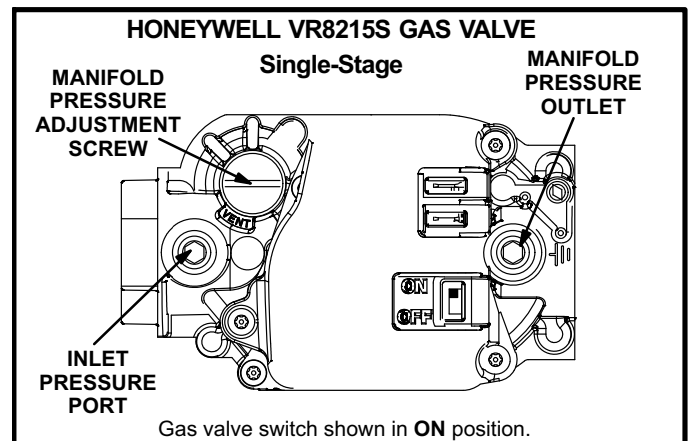
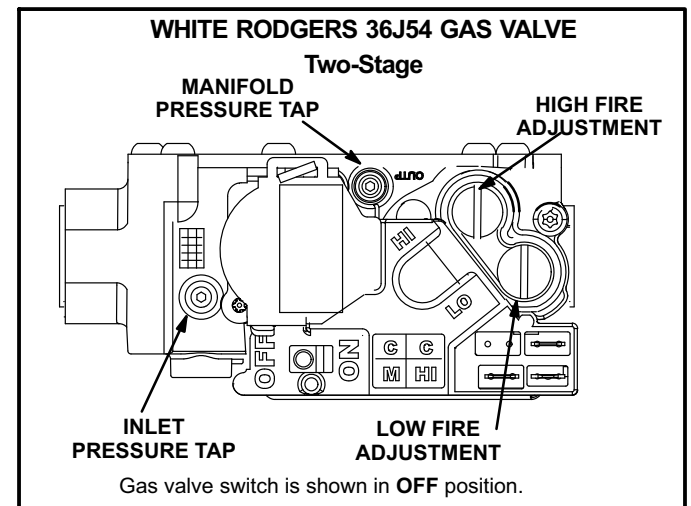

FIGURE 19
FIGURE 20
Both valves are adjustable for manifold pressure. Figures 19 and 20 show gas valve components. Table 6 shows factory gas valve regulation for KDB series units.
Gas Valve Operation (figures 19 and 20)
- 6- *Honeywell VR8215S Gas Valve with ON/OFF Lever* - Switch gas valve lever to **OFF**. See figure 19 .
- 7- *White Rodgers 36J54 Gas Valve with ON/OFF Lever* - Switch gas valve lever to **OFF**. See figure 20.
- 8- Wait five (5) minutes to clear out any gas. If you then smell gas, **STOP!** Immediately call your gas supplier from a neighbor's phone. Follow the gas supplier's instructions. If you do not smell gas, go to the next step.
- 9- *Honeywell VR8215S Gas Valve with ON/OFF Lever* - Switch gas valve lever to **ON**. See figure 19 .
- 10- *White Rodgers 36J54 Gas Valve with ON/OFF Lever* - Switch gas valve lever to **ON**. See figure 20.